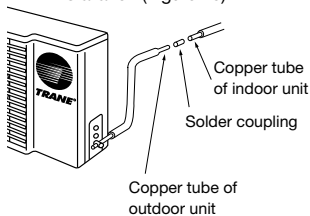

Figure 19
- Use a coupling between the copper tube of indoor unit and the copper tube used for installation (Figure 19).